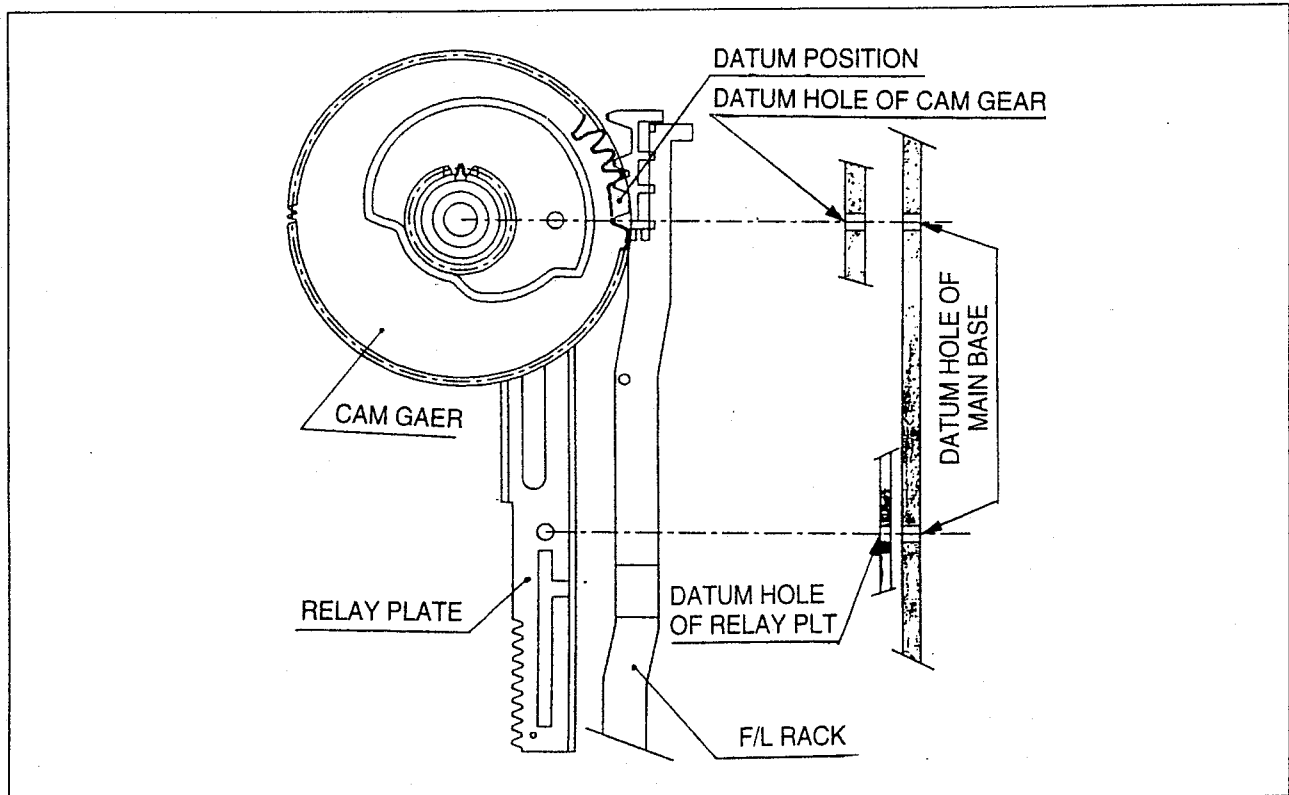

Fig. 4-1 DATUM POSITION OF RELAY PLATE & CAM GEAR
- 3) Remove the CAM GEAR ①.
- 4) Remove the RETURN LEVER ②.
- 5) Slide the RELAY PLATE ⑤ until the HOLE ③ formed in RELAY PLATE meets the PINCH POST ④ and disassemble the RELAY PLATE.
- 6) Slide the F/L RACK ⑥ in the direction of arrow and then remove the F/L RACK backward.
- 8) Pay attention to the location of assembling when re-assemble. (See Fig. 4-1)
- 1) Make sure that the datum hole of the RELAY PLATE meets that of the MAIN BASE in the Eject Mode as shown in Fig. 4-1.
- 2) Make sure that the datum hole of the CAM GEAR meets that of the MAIN BASE in the Eject Mode as shown in Fig. 4-1.